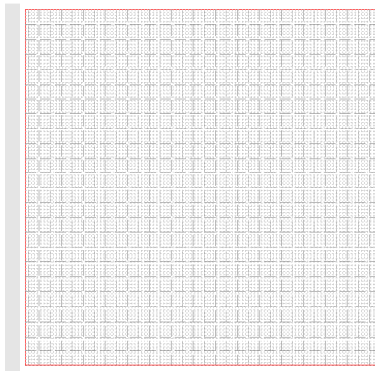

**Fig. 3. Create the Tutorial Project.**
4. In the Project Name box type **Tutorial\_V65**, as shown in Fig. 3, then click the **Save** button. (You don't have to add the **prj** extension because PTW will do it for you.) PTW will create a new folder called **Tutorial\_V65** and place the **Tutorial\_V65.prj** project file within that folder. Every project in PTW has its own folder because PTW stores other project-related files, such as One-Line Diagrams and data files, in the folder with the **prj** file.